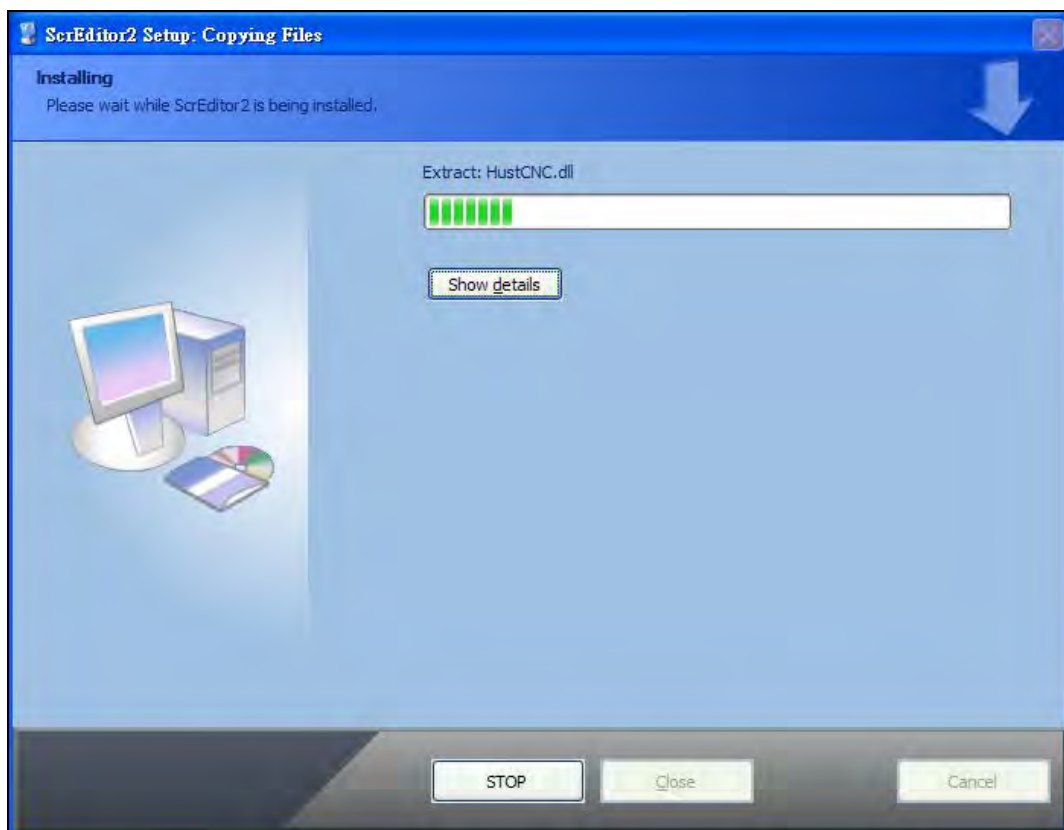
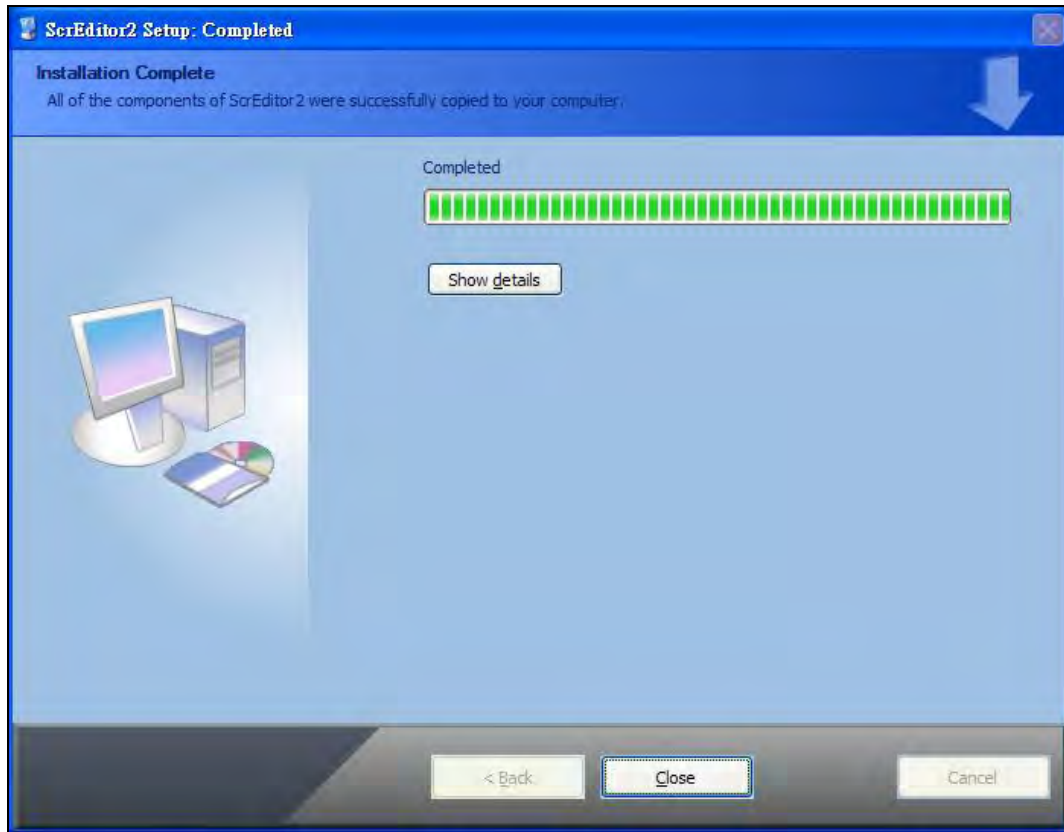

Fig. 3-1-5 Starting Screen Editor installation
Fig. 3-1-6 Finish installing Screen Editor
Step 4: Then click **Install** button to start Screen Editor Installation (Fig. 3-1-5, Fig. 3-1-6).
Step 5: After finish installing Screen Editor software program (Fig. 3-1-6), the system will ask you to install HMI USB driver, please click **Yes** to install.